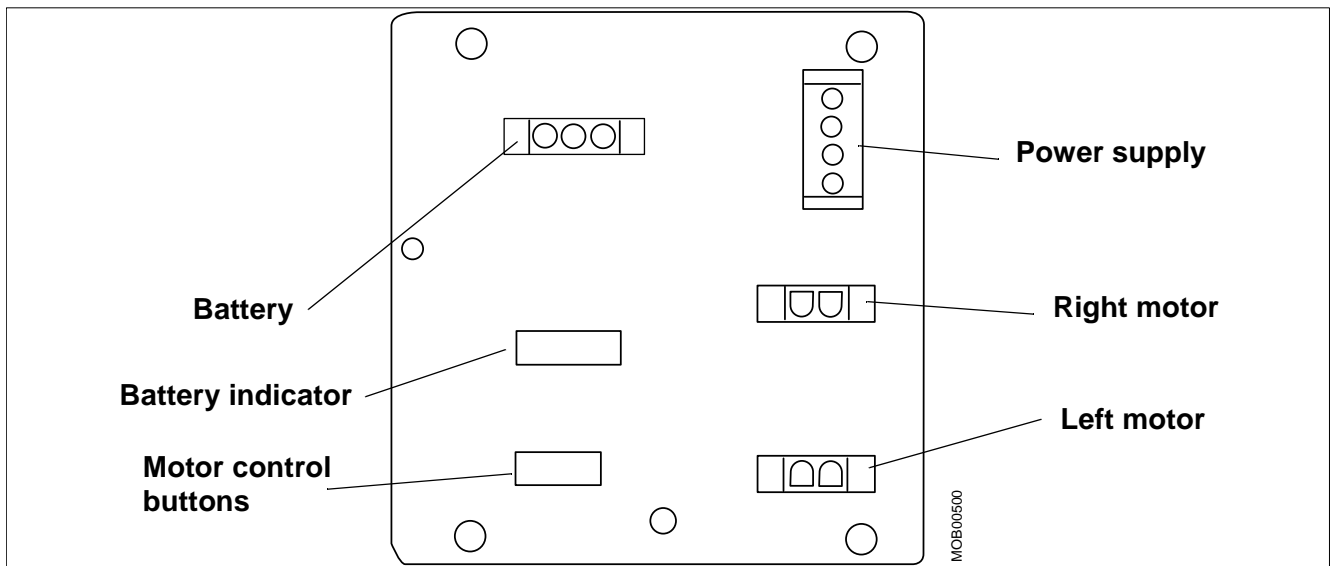

Fig. 7 Motor power unit, electrical connections
- Remove the motor drive unit or battery pack depending on the side where the motor is being replaced. Refer to (Fig. 7) for electrical connections.
- Install the charging unit and/ or battery pack. Refer to (Fig. 7) for electrical connections.